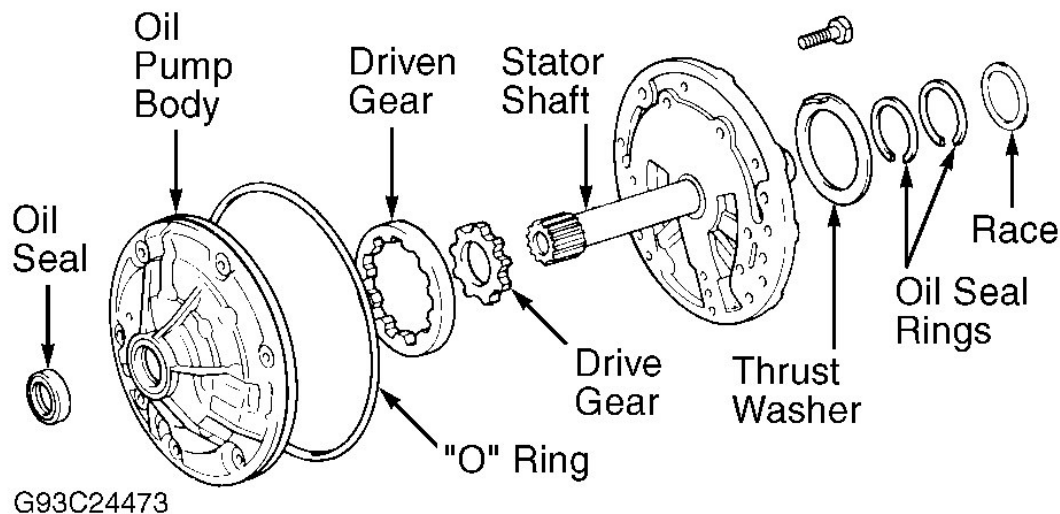

Fig. 20: Exploded View Of Oil Pump Assembly
2. Mark stator shaft and oil pump body for reassembly reference. Remove stator shaft bolts. Separate stator shaft and oil pump body. Mark gear location for reassembly reference. Remove pump gears. Using screwdriver, remove front seal. See **Fig. 20**.
- Coat thrust washer with petroleum jelly. Install thrust washer on oil pump body. Align washer tab with oil pump body. Install oil seal rings. Use care not to over expand rings. Using screwdrivers, check drive gear for smooth rotation. Install "O" ring. Install race on stator shaft. See **Fig. 20**.